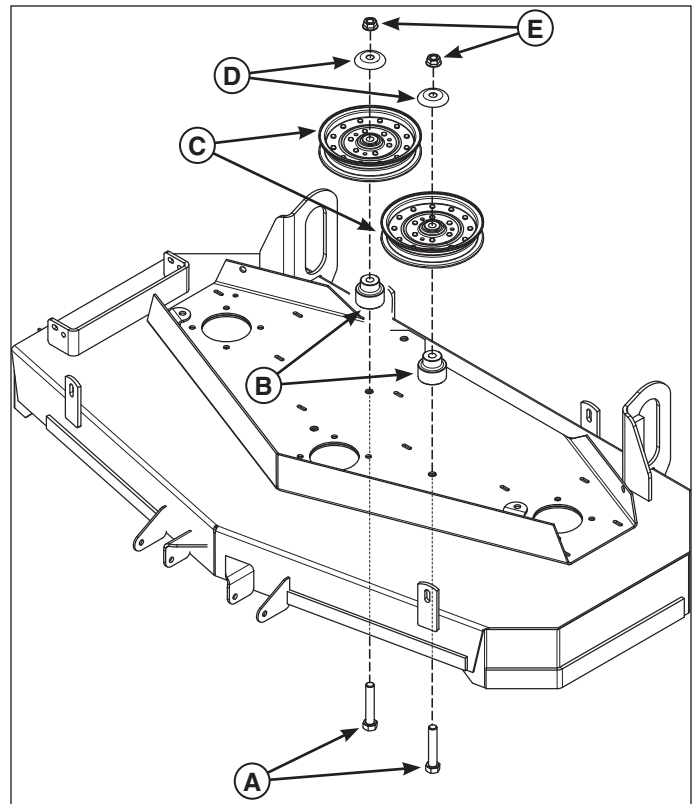

Figure 10. Installing the New Stationary Idler Pulleys
1. Install the new 1/2 X 3-1/2" bolt (A, Figure 10) through the mower deck, the .515 X 1.875 spacer (B) with the smaller hub facing up, the stationary idler pulley (C), the pulley shield (D) and secure using a 1/2" nylock hex nut (E).